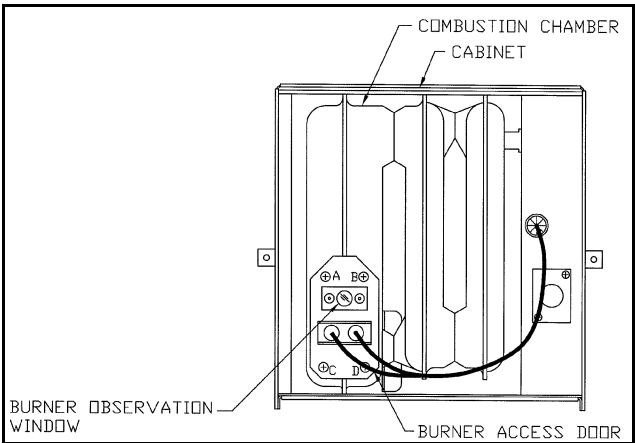
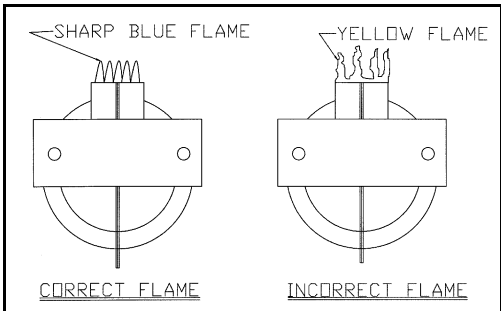

Figure 5
Figure 6
3. Periodically observe the main burner flame to assure it is burning with a hard blue flame with well defined burner ports. (See Figure 6). If flame appears yellow or burner has a lazy flame, shut furnace down. It is possible that burner needs cleaning or replaced. To inspect the main burner, remove the four (4) screws (A, B, C and D) securing the burner access door to the combustion chamber (See Figure 5). If excessive rust and corrosion are present on burner surface, the burner must be thoroughly cleaned or replaced. The burner may be cleaned using a steel wire brush and blown clean using high compression air. Contact a qualified service person for assistance.
NOTE: To observe flame, cabinet front must be removed. Operation of burner can then be observed through the viewing window on front of chamber (See Figure 5).